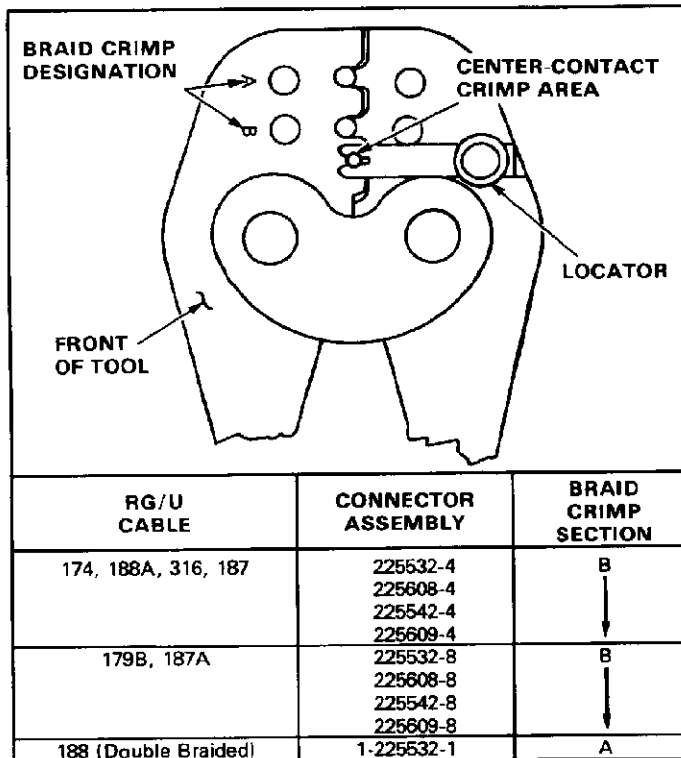

Fig. I-1
This Instruction Sheet (IS) covers application and maintenance procedures for AMP Hand Crimping Tool 59962-1 which crimps the AMP Series SMA 50-ohm R.F. Connectors for flexible cable listed in Figure I-1.
Select an applicable connector for the cable you are using from the chart in Figure I-1. The crimping procedure is as follows:
crimp section of tool (Figure I-1). See Figure I-4.